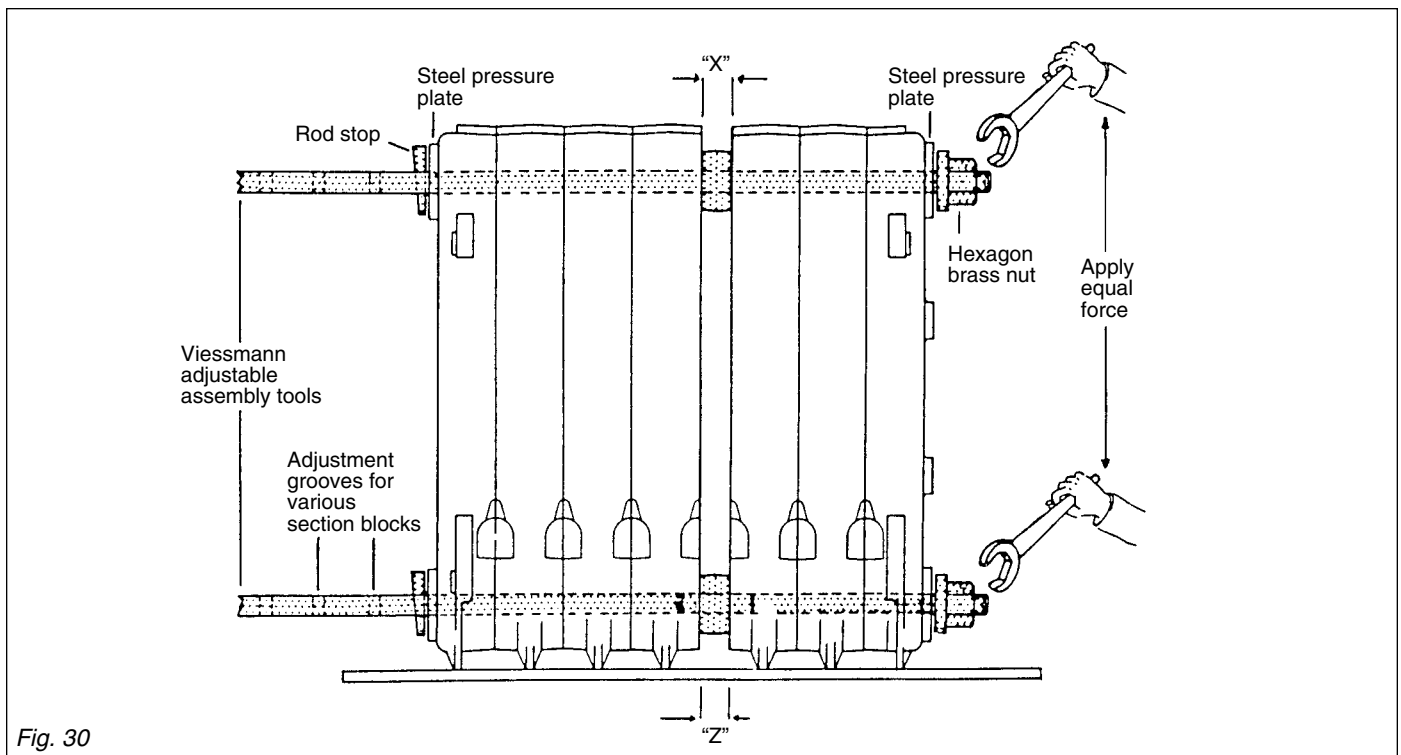

Fig. 30
- 3) Bring the section blocks together making sure that as they meet, they are kept exactly parallel to each other. Re-check the parallel alignment of the push nipple and nipple ports. Distance "X" must be the same as "Z". Insert, adjust and tighten assembly tools by hand. Make sure the two hexagon brass nuts have full "thread grip" on assembly tool threads. See Fig. 30.
Attention: Do not force tightening after you have reached contact of any two different points of the sealing surfaces. See Fig. 30.